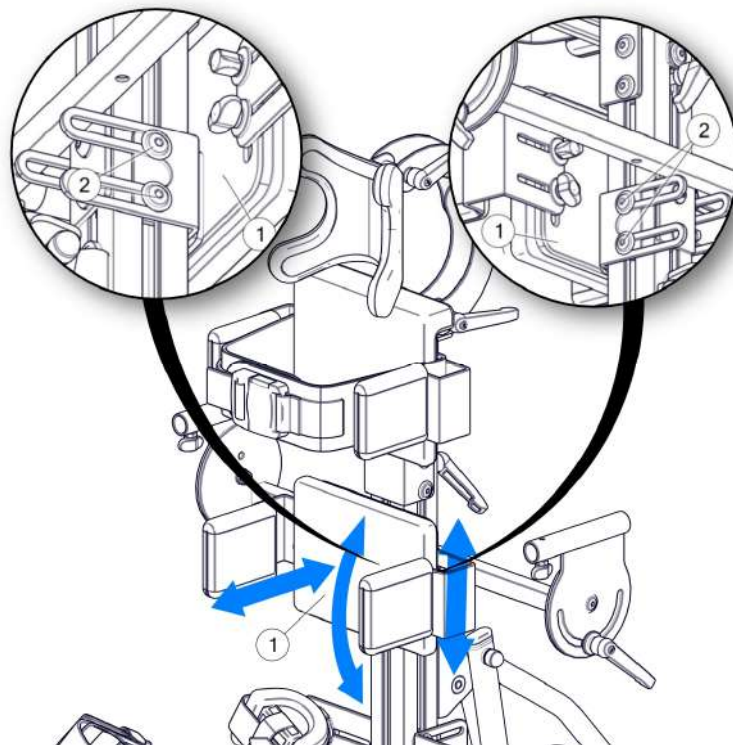

Fig. 8
Fig. 8 The trunk and pelvic support is the main support for the patient. For accurate adjustment to the patient, adjust the position of the support (1) by loosening the screws (2). The pelvic support can be adjusted in 3 directions: top-down, depth and angled in the lateral plane. Once in the desired position, retighten the screws (2).